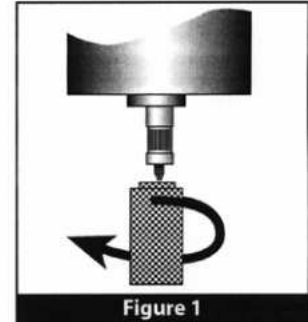
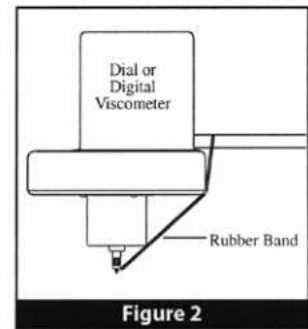

Figure 1
Figure 2
- If you have a shipping cap, as shown in Figure 1, please use it to support the pointer shaft. If you don't, then use a rubber band as shown in Figure 2 to support the pointer shaft.